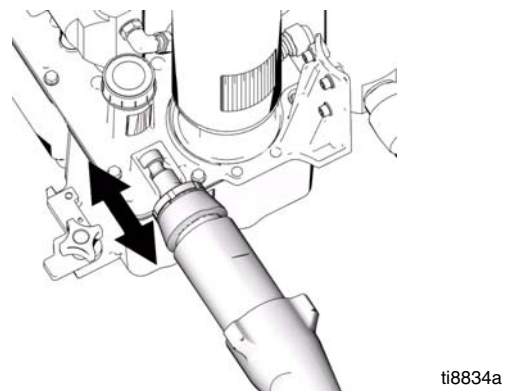

FIG. 13
1. (FIG. 13) If needed, place pump rod in adjustment casting and pull pump to lengthen rod.